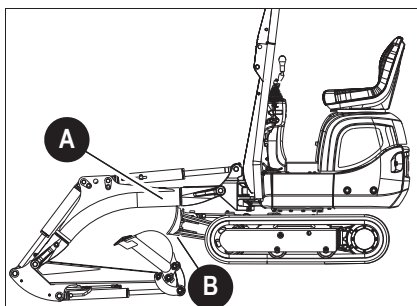

Fig. 184: Working alongside trenches
- Ensure that stabilizer blade **B** never touches boom **A** Fig. 184